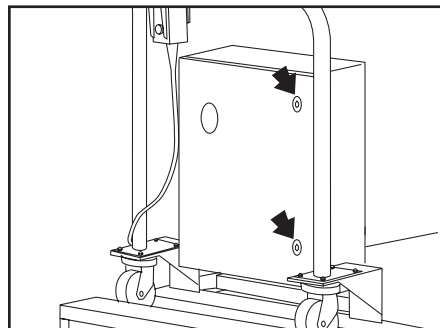

Figure 9
6. Open the electrical cabinet door by removing the two allen head screws with the tool provided. (Figure 9)